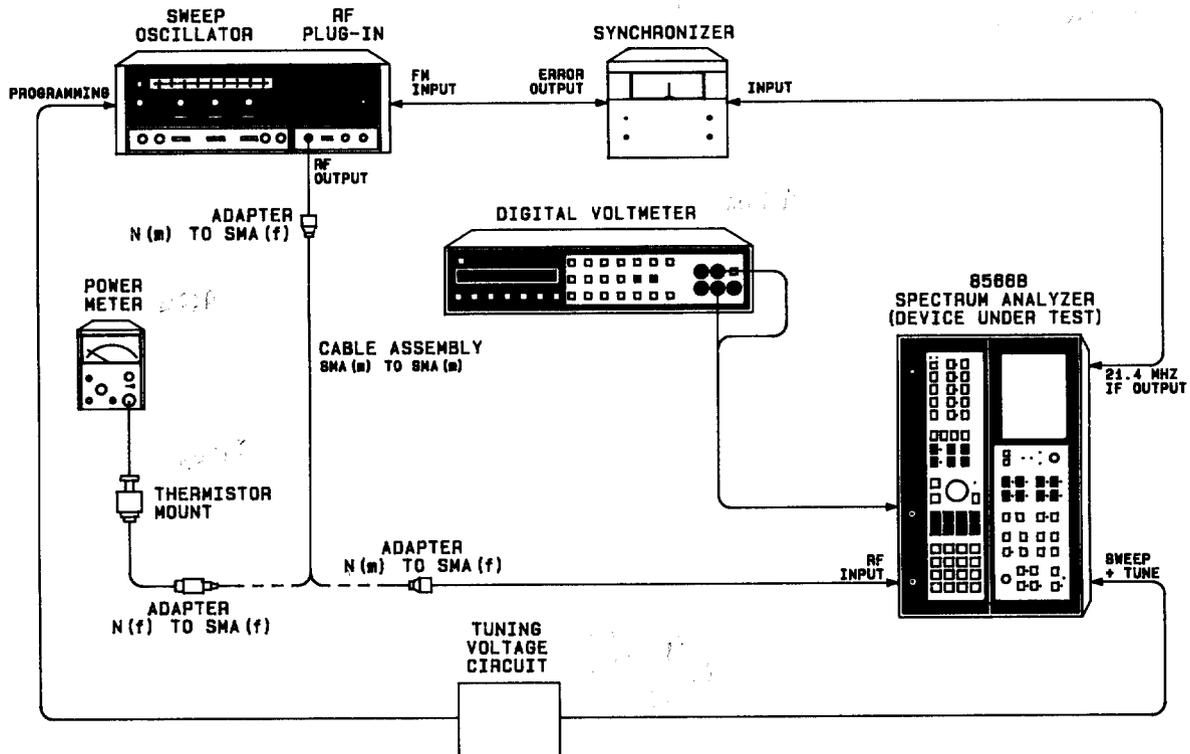

FIGURE 68. FREQUENCY RESPONSE PRELIMINARY ADJUSTMENTS SETUP
1. Position instrument on right side as shown in Figure 68, with bottom cover removed.
5. Disconnect power meter/thermistor mount from CAL OUTPUT and connect equipment as shown in Figure 68, with power meter/mount connected to sweep oscillator.